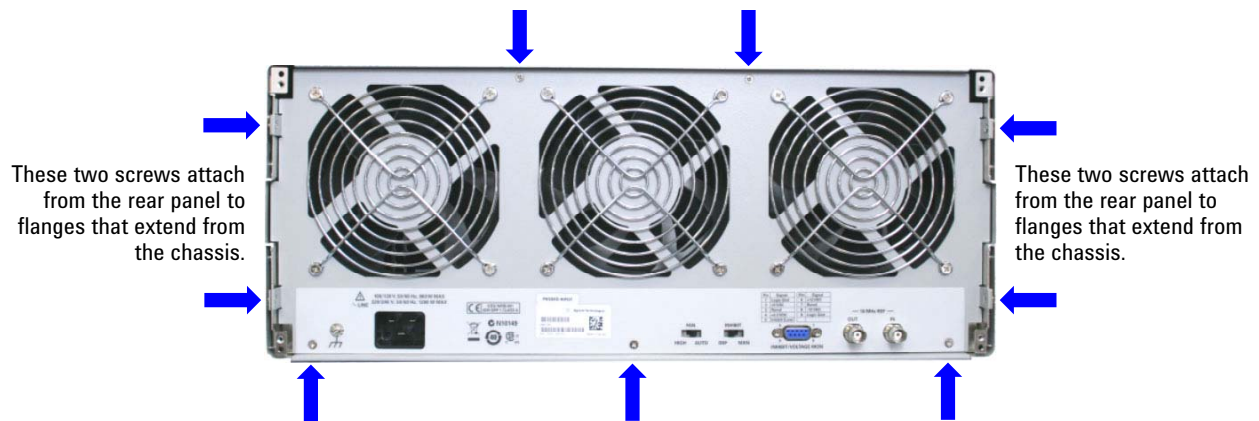

Figure 78 The nine screws which secure the rear panel to the chassis
- 3 Remove the 9 screws highlighted in Figure 78. Depending on your chassis, these 9 screws may either be Phillips #2 or Torx T8.
- 8 Mount the rear panel back in the chassis and insert the 9 screws shown in Figure 78. Tighten these screws securely.